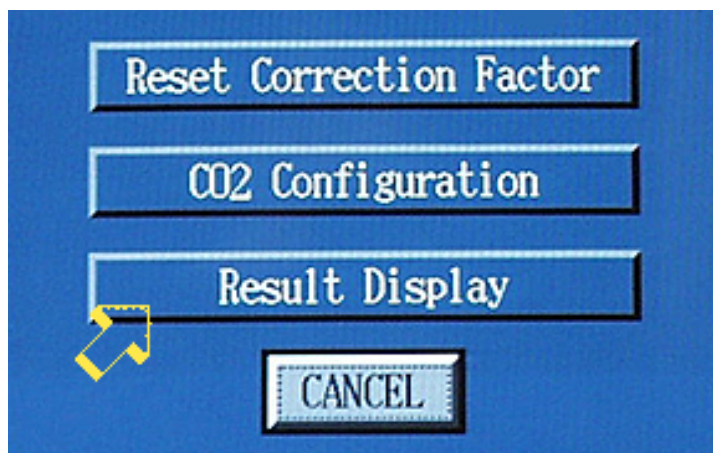

Figure 19
- 117 Click on “Result Display”, see Figure 19.